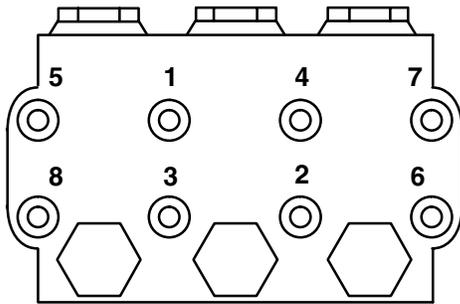

Fig. 4
9. Install the capscrews and washers fingertight. Torque the screws to 30 N-m (22 ft-lb) following the tightening pattern shown in Fig. 4. Uneven tightening could cause the manifold to bind or jam.